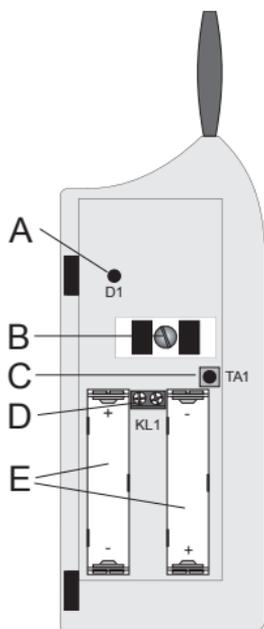

Figure 16
- If you are using external NC contacts, connect both cables (fed through the openings near screw 'B') with the screw terminals 'KL1' (position 'D' in figure 16).
- Insert 2 size AAA/micro batteries into the battery compartment. Make sure that you observe the correct polarity (see the illustration in the battery compartment or figure 16).